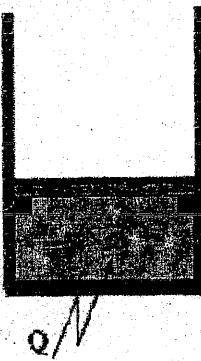

Figure P.10
10. Nitrogen (5 kg) is contained in a piston cylinder device shown in Figure P.10 initially at a pressure of 800 kPa and a temperature of 127°C . There is a heat transfer to the system until the temperature reaches to 527°C . It takes a pressure of 1500 kPa to lift the piston. Sketch the process on $P - V$ and $T - V$ diagrams and determine the total work and heat transfer in the process. [Take $R = 297 \text{ J/kgK}$ and $c_v = 743 \text{ J/kgK}$] [8]